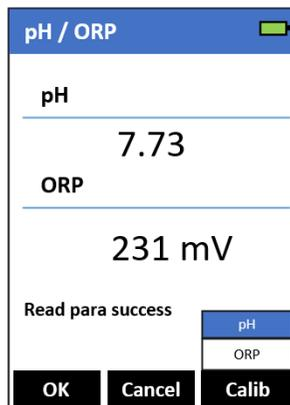

Figure 18.
5. Press **Calib** () as needed to highlight **pH** calibration in the selection menu (Figure 18).